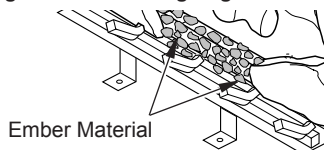

Figure 49 - Placing Ember Material on Burner
8. Pull ember material apart into pieces no larger than a dime. Place these pieces loosely and sparingly directly onto exposed section of front burner and along space between burner and grate prongs (see Figure 49). This will create glowing ember appearance as flame touches ember material. Do not block air slots by using too much ember material in one area. It is not necessary to use all of ember material provided.